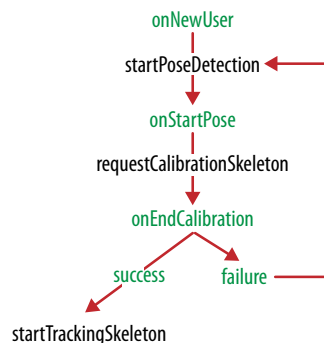

Figure 4-1. Flow of OpenNI actions and callbacks needed to initiate joint tracking.
Before we get into the nitty-gritty of code, I want to give you an overall picture of how calibration works (Figure 4-1). The diagram shows the flow of callbacks triggered by OpenNI and the actions that we have to take within them to continue the calibration process. I'll briefly explain the complete picture and then we'll dive into the actual code within our sketch to see how the whole system works in practice.
- ❷. If calibration was successful, then we go into the first branch of the `if` statement. There, we kick off skeleton tracking by calling `kinect.startTrackingSkeleton(userId)`. After calling that function, joint position data will become available for our user within `draw`. At this point, we have completed our journey through the calibration process and the attendant callback functions. They won't get triggered again during the running of the sketch unless a new user appears on the scene needing calibration (or our first user leaves the scene and needs to be recalibrated). Let's turn our attention back to `draw` to see how to work with the skeleton data after it finally becomes accessible.
- ③. If calibration failed, `succeeded` will be false, and we'll go into the `else` branch of the `if` statement. What we do there is restart the calibration process. We call `kinect.startPoseDetection("Psi", userId)` to tell OpenNI to restart the process of checking to see if the user is in the calibration pose. If you look back at Figure 4-1, you can see that, in the case of failure, the calibration process becomes a loop. It jumps back to the pose detection phase and then continues again. When the user assumes the calibration pose (or continues to hold it), our `onStartPose` function will get called again, and if we keep the process going, eventually `onEndCalibration` will be called as well. However, if we don't instruct the user to move around or otherwise attempt to correct the problem, it is unlikely that the calibration process will achieve a different result. For that reason, it is once again a good idea to give users some visual feedback or instructions to make sure that they are fully visible within the depth image and standing still so that the calibration process has a chance to succeed.